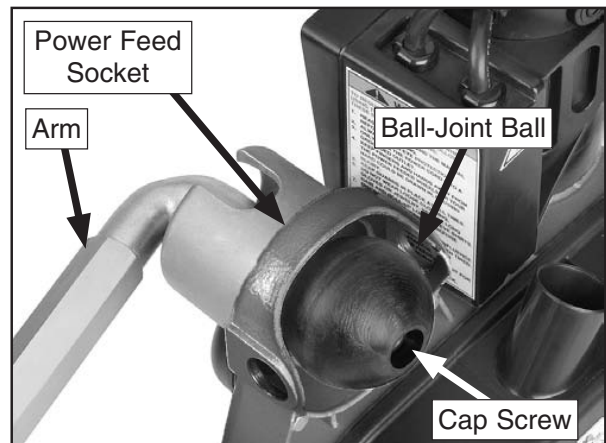

Figure 7. Arm, ball joint and socket assembly.
3. Insert the arm into the ball-joint ball and secure both together with the M10-1.5 x 25 cap screw shown in **Figure 7**.
4. Insert the ball joint assembly into the power feed socket shown in **Figure 7**.
5. Insert the ball-joint socket into the power feed socket as shown in **Figures 7–8**, so it rests against the ball-joint ball.